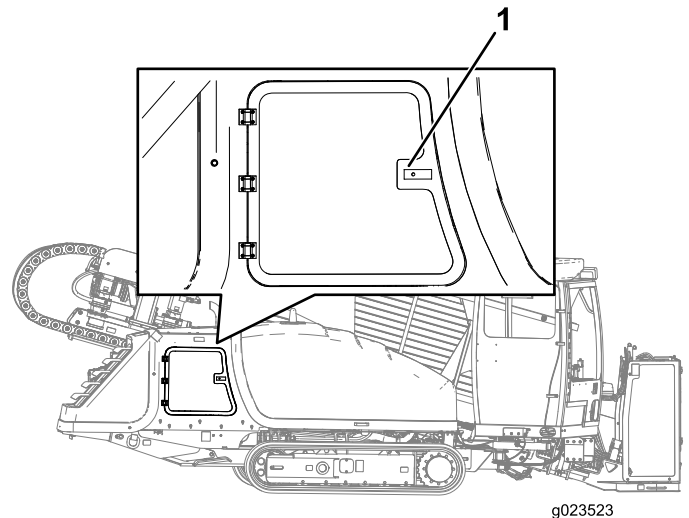

Figure 101
2. Push on the left side of the panel handle, and pull the panel open when the handle is released (Figure 101).